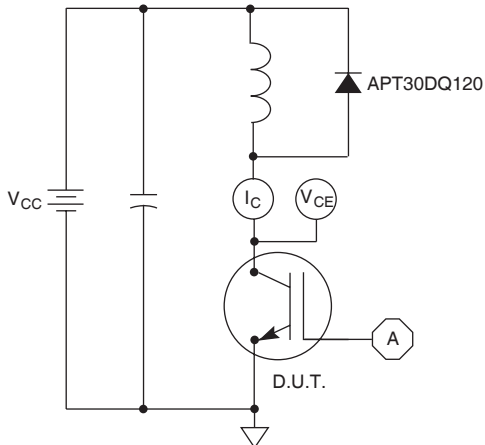

Figure 21, Inductive Switching Test Circuit
⑤ E_{on2} is the clamped inductive turn-on energy that includes a commutating diode reverse recovery current in the IGBT turn-on switching loss. (See Figures 21, 22.)
⑥ E_{off} is the clamped inductive turn-off energy measured in accordance with JEDEC standard JESD24-1. (See Figures 21, 23.)
⑦ R_G is external gate resistance, not including R_{Gint} nor gate driver impedance.
⑧ Continuous current limited by package lead temperature.